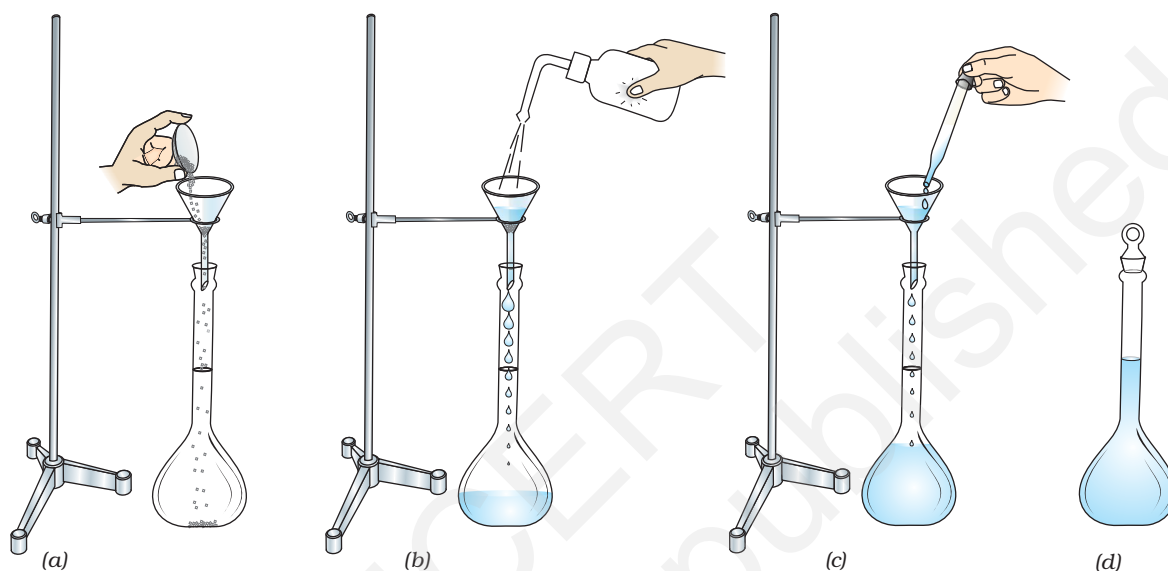

Fig. 2.27 : Making standard solution
- (iii) Transfer oxalic acid carefully from the watch glass/weighing tube into a clean and dry measuring flask using a funnel. Weigh the empty watch glass again (Weight 3) and find out the mass of oxalic acid transferred to the measuring flask by subtracting this mass (Weight 3) from the combined mass of watch glass and oxalic acid (Weight 2). Calculate the exact molarity of solution from this mass. Wash funnel several times with distilled water by using a wash bottle to transfer the sticking particles if any into the measuring flask. While washing the funnel, add water in small amounts so that its volume in the flask does not exceed $\frac{1}{4}^{\text{th}}$ of the volume of the measuring flask as shown in Fig. 2.27 a, b.
- (iv) Swirl the measuring flask till solid oxalic acid is completely dissolved. Add more distilled water with shaking. Make up the volume with distilled water to the etched mark by adding last few mL dropwise. Stopper the flask and shake it thoroughly to make the solution uniform throughout (Fig. 2.27 c, d). Label it as 0.1 M oxalic acid solution.